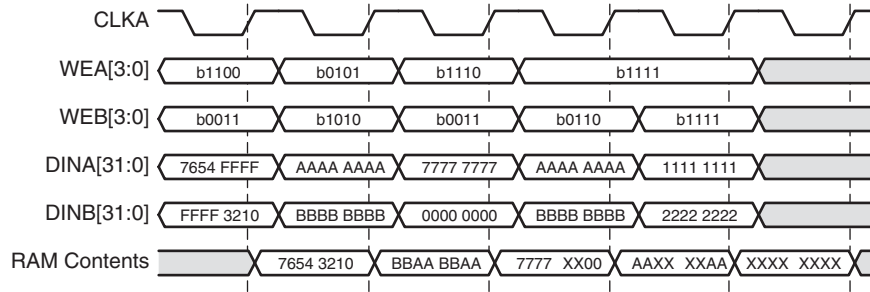

Figure 3-15: Write-Write Collision Example
- **Using Byte-Writes:** When using byte-writes, memory contents are not corrupted when separate bytes are written in the same data word. RAM contents are corrupted only when both ports attempt to Write the same byte. Figure 3-15 illustrates this case. Assume `addr_a = addr_b = 0`.